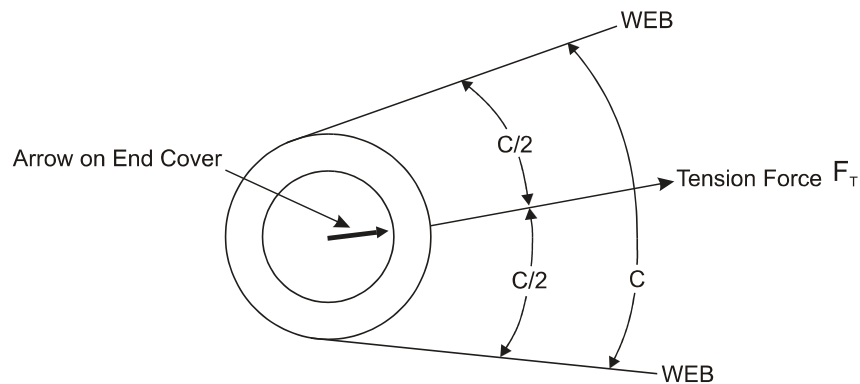

Figure 6 - TENSION FORCE DIRECTION
2. **ORIENT THE TRANSDUCER (see figure 6)** The transducer shaft must be turned so the Tension Force arrow points in the same direction as the Tension Force. Tighten the shaft so it can not turn.